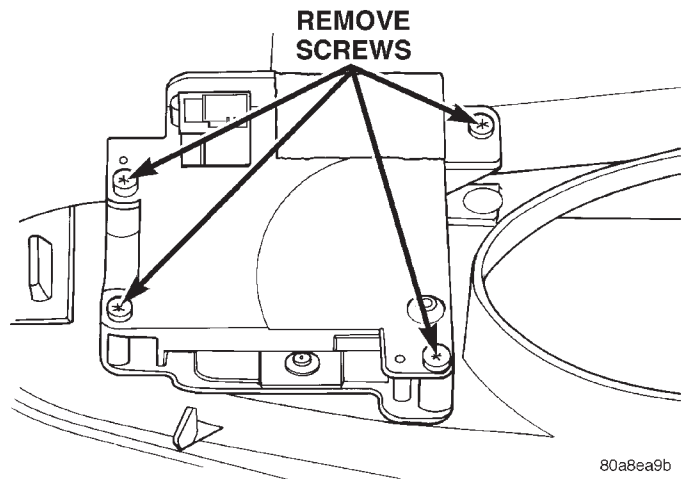

Fig. 10 CMTC Module
- (1) Disconnect the battery negative cable.
- (2) Remove the Cluster Hood. Refer to Cluster Hood removal procedure.
- (3) With the cluster hood removed remove the four screws attaching the mini computer (Fig. 10).
- (4) Remove CMTC from console.